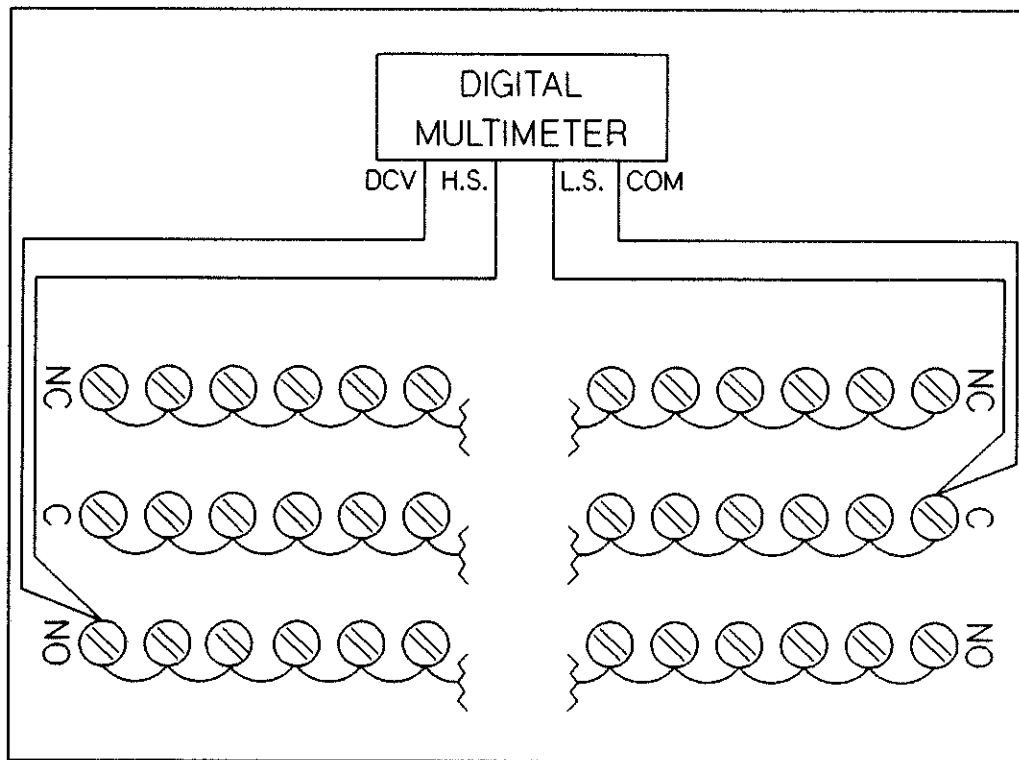

Figure 14-5 HP 44725A NO Channels Contact Resistance Test
3. Set the multimeter to measure four-wire ohms. Connect the multimeter DCV input and high SENSE leads to the NO (Normally Open) connection on the test fixture. Connect the multimeter COM input and COM SENSE leads to the C (Common) connection on the test fixture. The connections are shown in Figure 14-5.